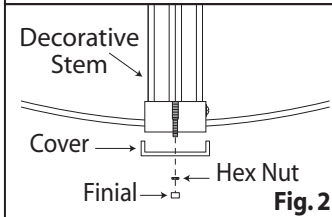

Fig. 2
2. Tighten the cover to the fixture by hex nut and finial. (Fig. 2)